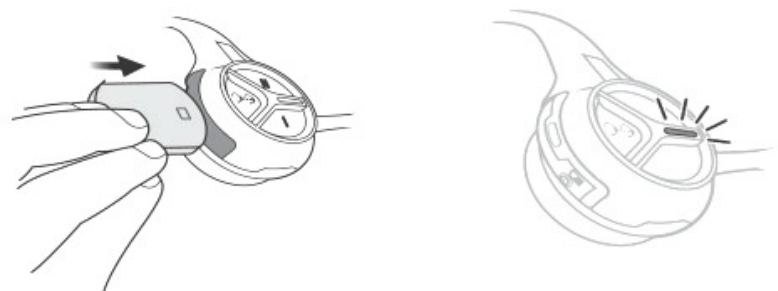

Figure 10.
5. Insert battery into the now assembled headset. See *Figure 10*.